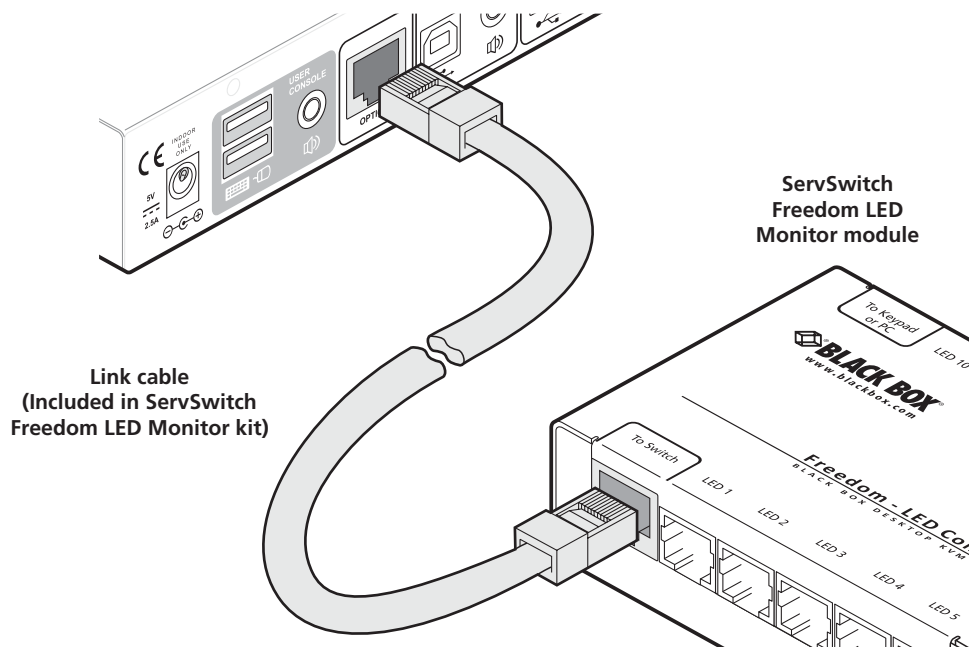

Figure 3-9. Linking the ServSwitch Freedom LED Monitor module to the ServSwitch Freedom switch.
1. Remove power from the switch. Use the flat cable supplied with the ServSwitch Freedom LED Monitor kit to link the module to the **OPTIONS** port of the ServSwitch Freedom switch. See Figure 3-9.